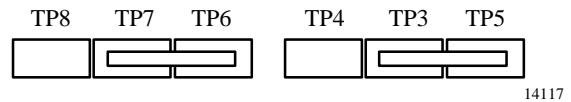

Figure 3. Jumper setting
- Jumper setting on the basic application board (see figure 3)